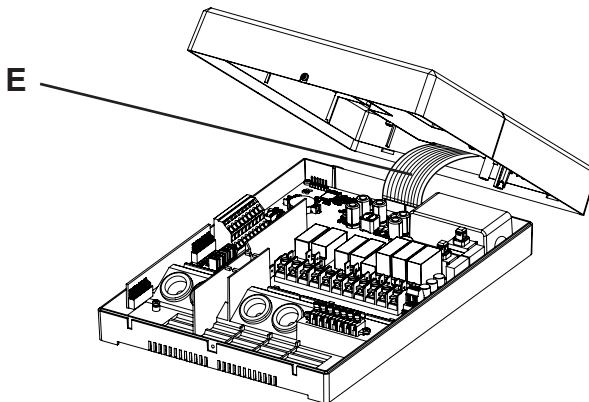

Fig. 3 Unplug ribbon cable
3. Pull gently on ribbon cable **E** to release it from the connection socket (**Fig. 3**).